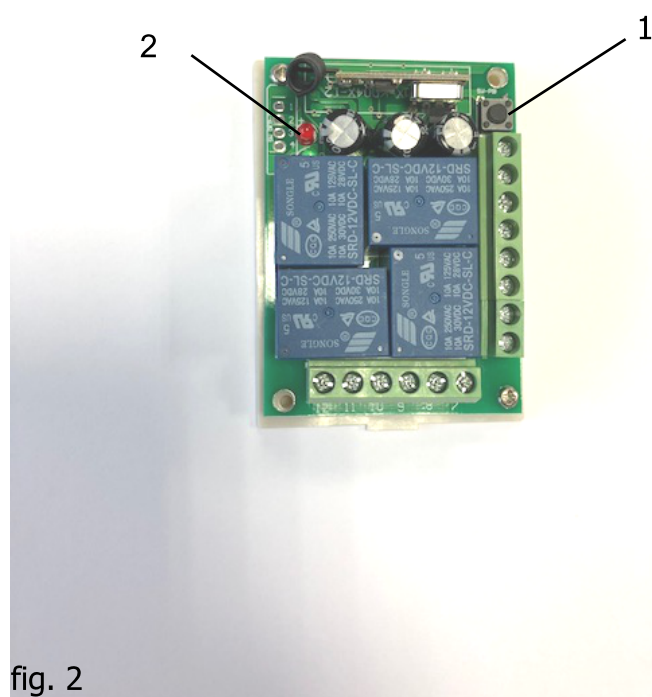

fig. 2
- 2) Press the button (fig. 2 no. 1) until the LED (fig. 2 no. 2) lights up.